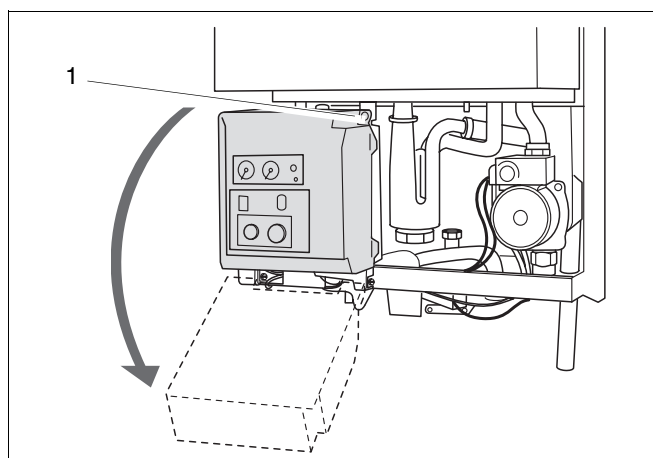

Fig. 54 Swivel UBA housing downwards
- Loosen crosshead screw (fig. 54, item 1) on UBA housing.